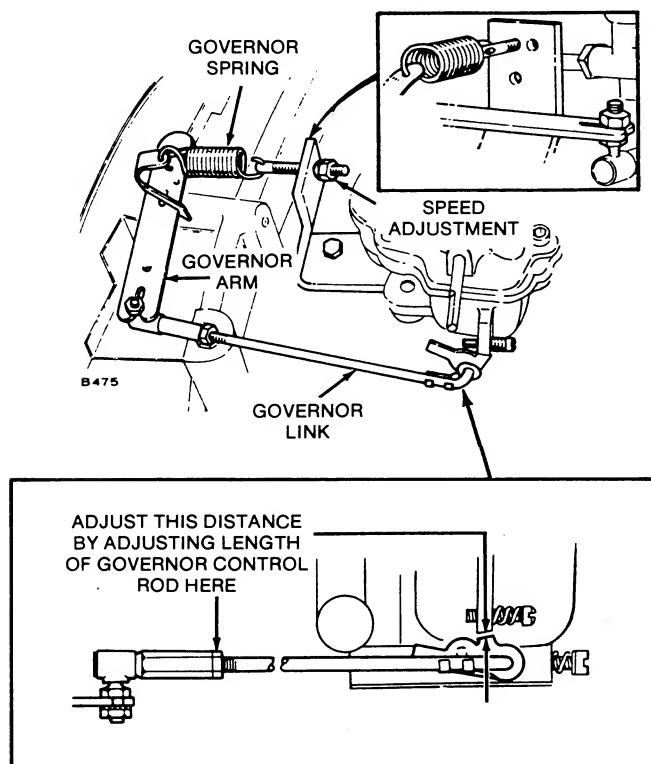

FIGURE 15. GOVERNOR ADJUSTMENTS
3. Adjust the length of the governor linkage and check linkage and throttle shaft for binding or excessive looseness. The engine starts at wide open throttle. The length of the linkage connecting the governor arm to the throttle shaft assembly is adjusted by rotating the ball joint. Adjust this length so that with the engine stopped and tension on the governor spring, the stop on the throttle shaft assembly almost touches the throttle stop screw housing on side of carburetor (one more turn of governor ball joint would allow throttle shaft linkage to rest against stop screw housing). See Figure 15.